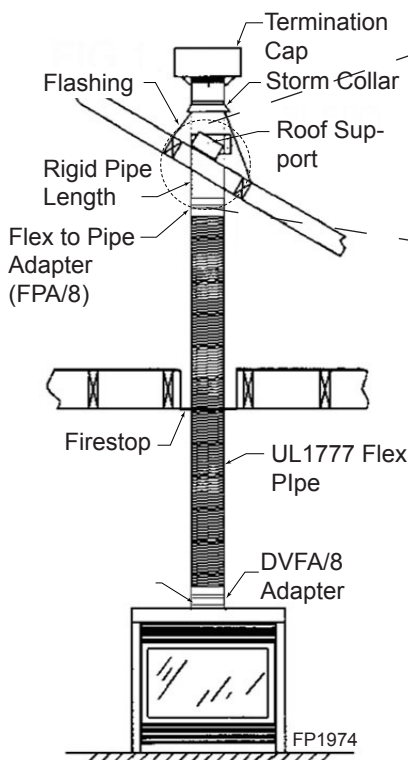

Figure 36 - Typical Vertical Flex Vent Installation
2. Install firestop spacers (*Figure 36*) when penetrating ceiling, attic spaces, or walls.
4. Use only listed and approved terminations and accessories, installed per the installation instructions and *Figure 36*.